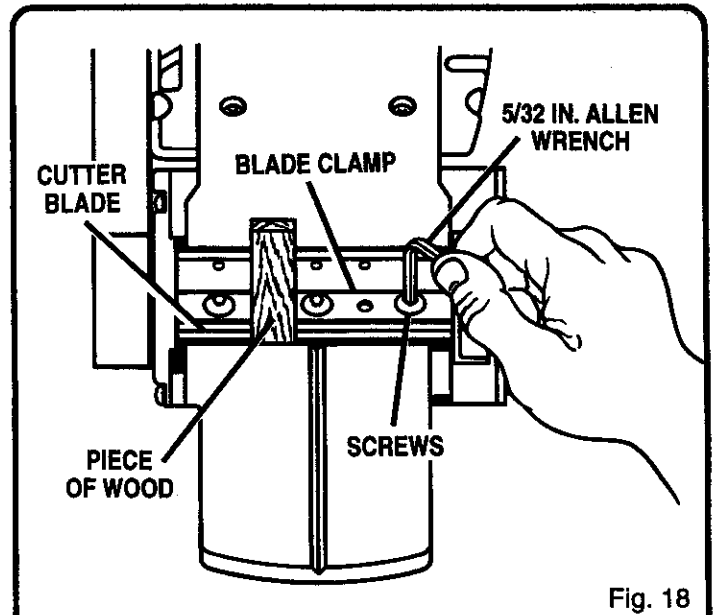

Fig. 18
2. Place your planer in an upside down position on work bench. *See Figure 18.*
3. To prevent rotation of the arbor while changing the blades, place a small piece of wood between the arbor and the base. *See Figure 18.*